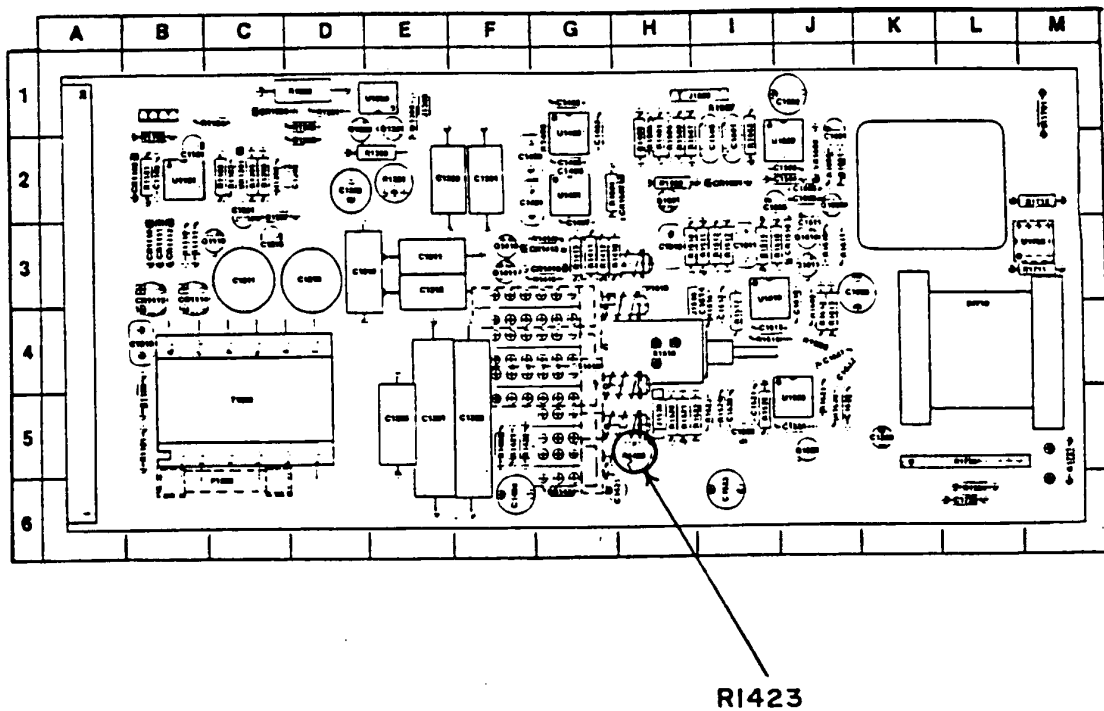

Figure 1. Output attenuator adjustment - equipment location (SG505, SG505 opt 01).
(8) Adjust **FREQUENCY Hz** dial and frequency multiplier pushbuttons to values listed in table 5 below. Differential voltmeter will indicate within limits specified.
(9) Adjust **OUTPUT LEVEL (dBm) CAL** control fully cw (to detent).
b. Adjustments. Remove left side cover from TI and adjust R1423 (fig. 1) for 0.775 V ac indication on digital voltmeter (R).